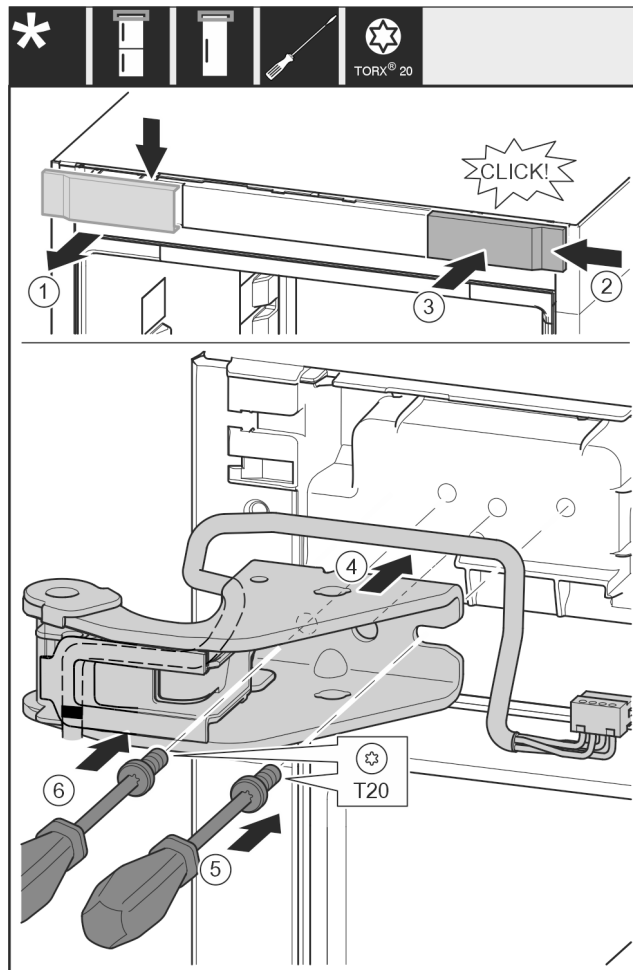

Fig. 20
- Take off the cover from above to the front. *Fig. 20 (1)*
- Rotate the cover 180° and clip onto the other side from the right. *Fig. 20 (2)*
- Latch the cover into place. *Fig. 20 (3)*
- Position the upper bearing bracket. *Fig. 20 (4)*
- Insert the screw with a T20 screwdriver and tighten it. *Fig. 20 (5)*
- Insert the screw with a T20 screwdriver and tighten it. *Fig. 20 (6)*